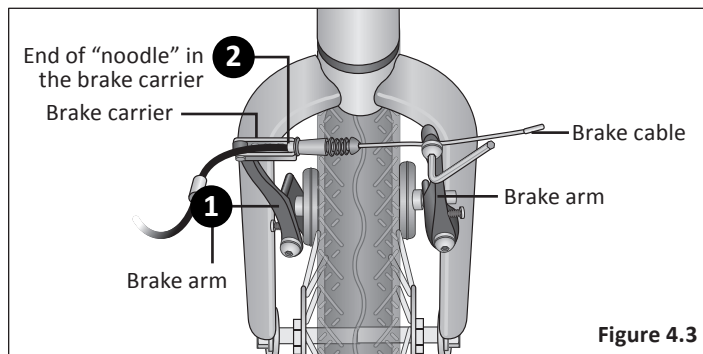

Figure 4.3
- 1 Squeeze the two brake arms together until the brake pads touch the wheel rim. **Figure 4.3**